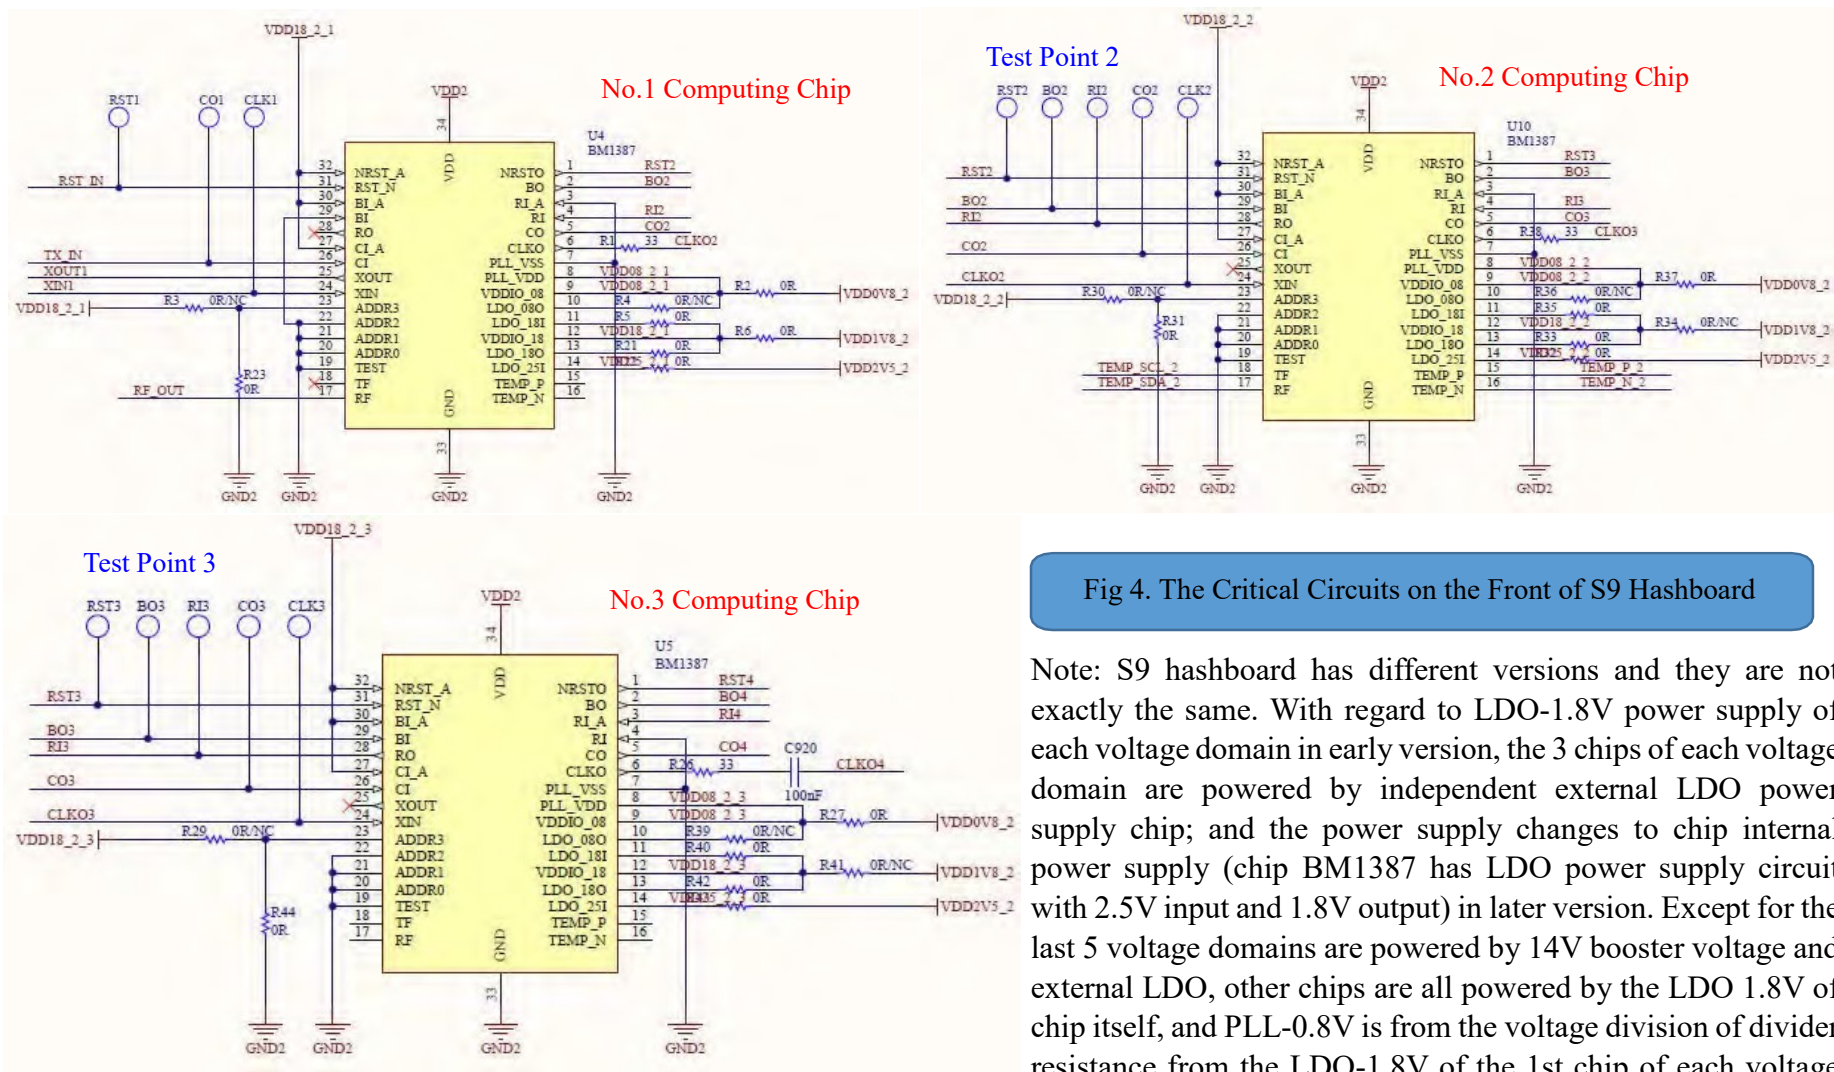

Fig 4. The Critical Circuits on the Front of S9 Hashboard
② Voltage Domain: the entire board has 21 voltage domains, and each domain has 3 chips. The 3 chips in the same voltage domain are in associated power supply, and then connect other voltage domains in series. The circuit structure is as below Fig 4: